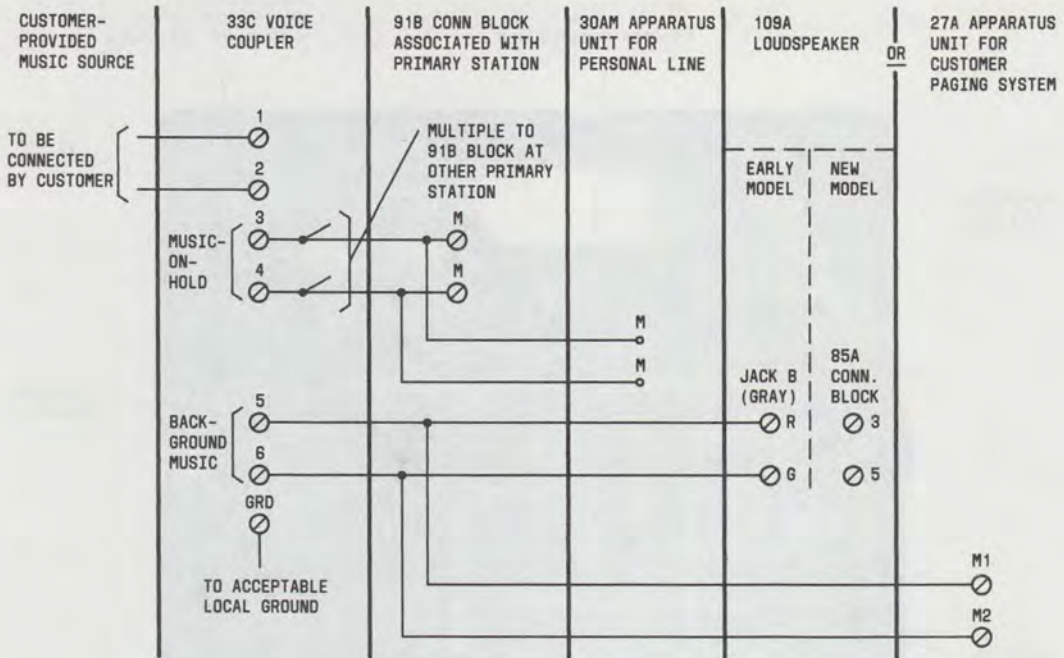

Fig. 24—Connections for Music-On-Hold and Background Music
- (c) Connect terminals 3 and 4 of the 33C coupler to the primary stations via the two M terminals of the 91B connecting blocks using inside wire (Fig. 24). Connect GRD terminal to building ground.
music-on-hold (the same coupler can be used for both functions), and connect as shown in Fig. 24.
(4) If background music is to be provided over the 109A loudspeaker, install a 33B voice coupler if one is not already used for music-on-hold (the same coupler can be used for both functions) and connect as shown in Fig. 24.
both functions). Connect screw terminals 5 and 6 of the coupler to screw terminals M1 and M2 of the 27A unit (Fig. 24 and 31). Connect GRD terminal to building ground.